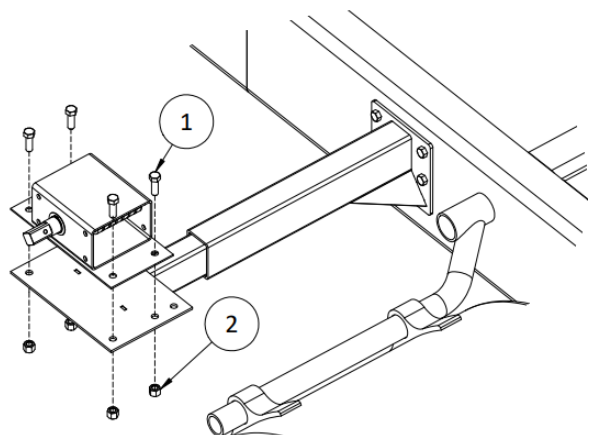

FIGURE 3.14: MOUNTING SPRING BOXES
Align mounting holes on spring boxes with holes on offset mounting brackets; square connector should face outward. Install provided 1/2" x 1-1/2" bolts (1) and nuts (2), and tighten, see Figure 3.14.